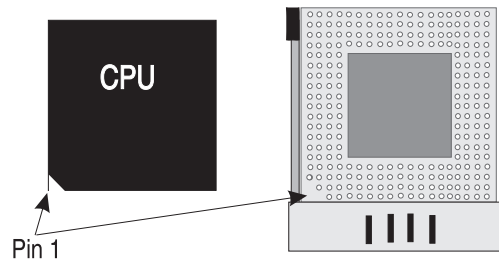

Figure 3-2 Installing a CPU
1. Power off the system and locate the M4Li's ZIF socket (Figure 3-2).
3. Insert the new processor into the socket. Make sure pin 1 on the CPU lines up with pin 1 on the socket. Refer to Figure 3-2 for pin 1 location.